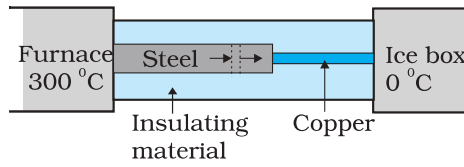

Fig. 11.15
► **Example 11.6** What is the temperature of the steel-copper junction in the steady state of the system shown in Fig. 11.15. Length of the steel rod = 15.0 cm, length of the copper rod = 10.0 cm, temperature of the furnace = 300 °C, temperature of the other end = 0 °C. The area of cross section of the steel rod is twice that of the copper rod. (Thermal conductivity of steel = 50.2 $\text{J s}^{-1} \text{m}^{-1} \text{K}^{-1}$; and of copper = 385 $\text{J s}^{-1} \text{m}^{-1} \text{K}^{-1}$).